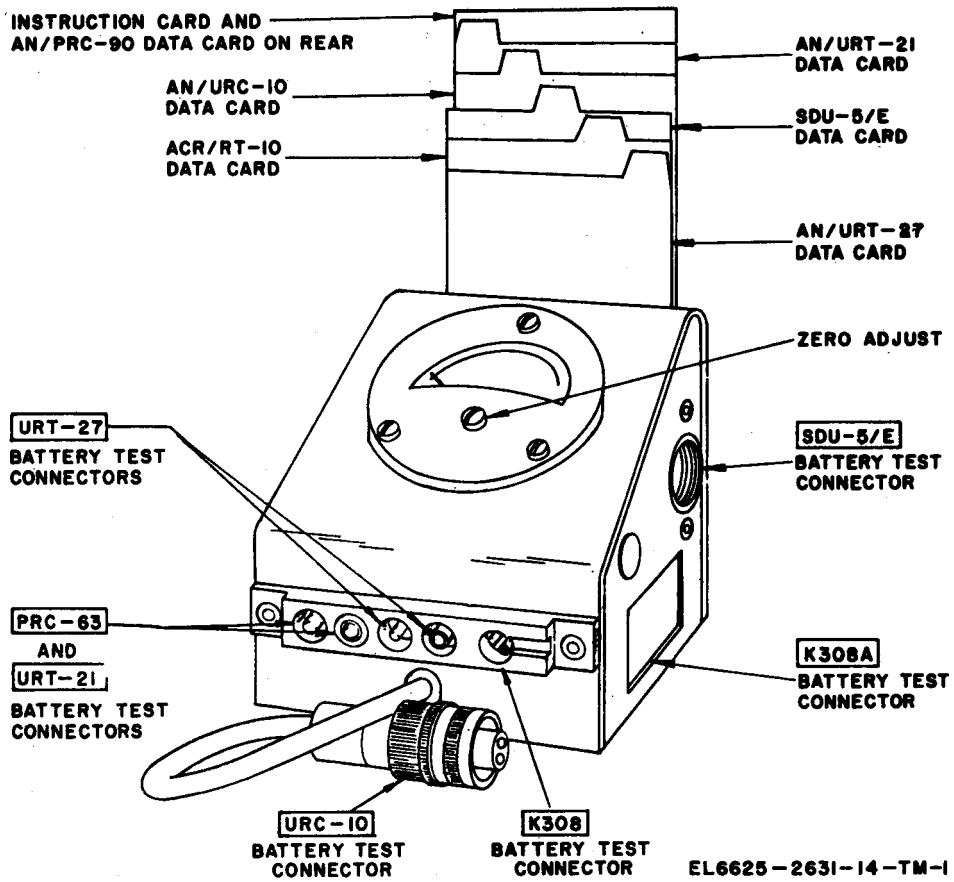

Figure 1-1. Battery Test Set TS-2530/UR.
a. This manual describes Teat Set, Battery TS-253/UR (fig. 1-1, FSN 6625-933-6112. Information provided herein includes description, installation, operation, functioning of equipment organizational and general support maintenance.
1-7. Purpose and Use (fig. 1-1)